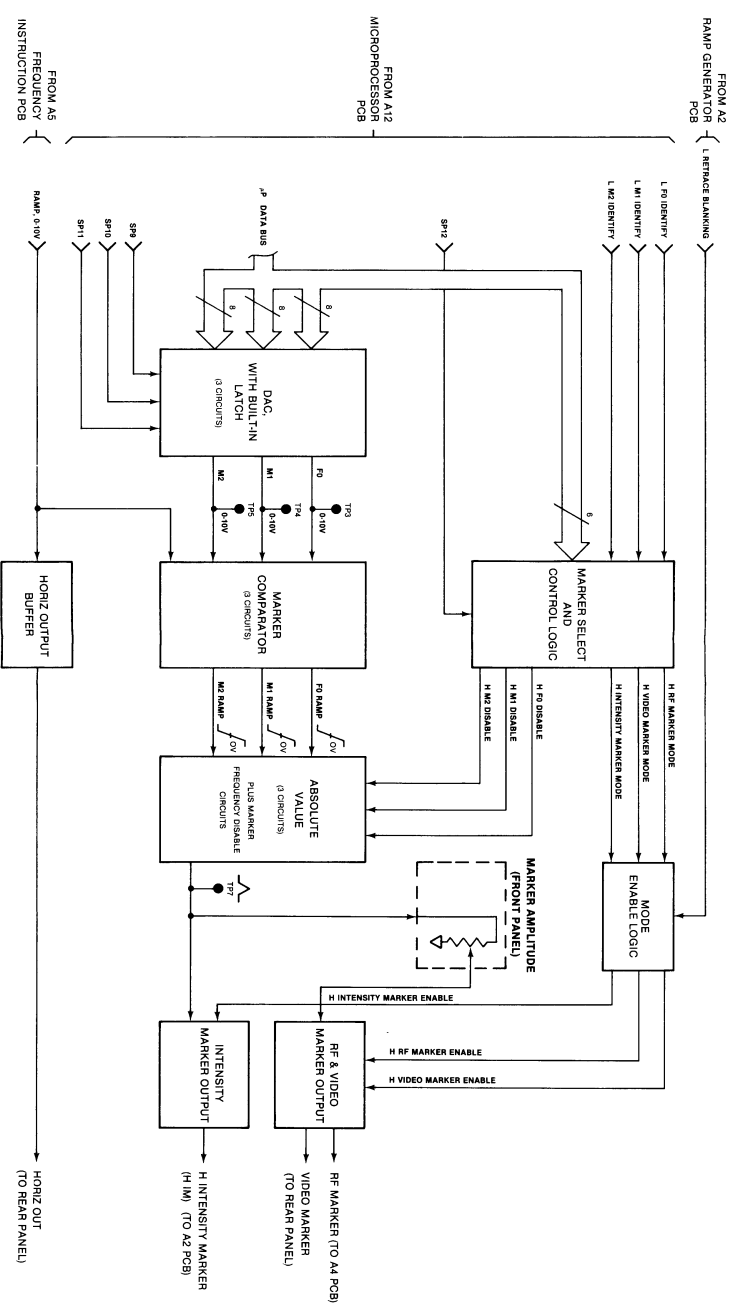
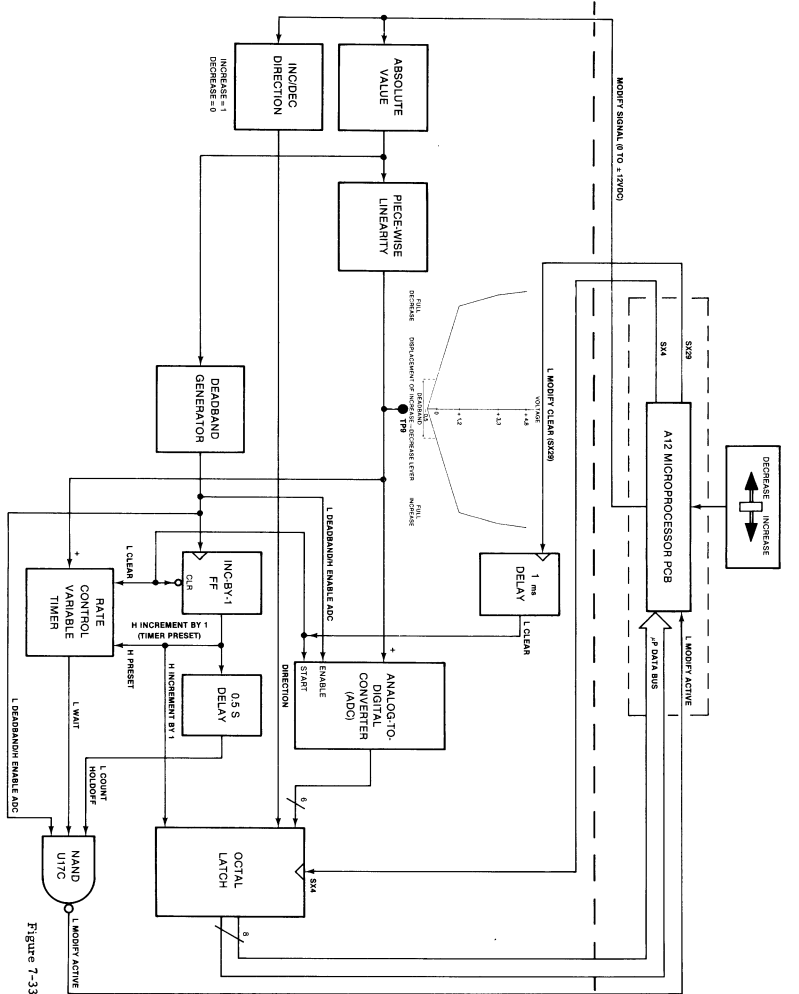

Figure 7-32. A3 PCB Marker Generator Functional Block Diagram
Figure 7-33. A3 PCB INCREASE-DECREASE Logic Circuit Functional Block Diagram
The A3 Marker Generator PCB generates the RF, Video, and Intensity markers. In addition, the PCB also contains the logic circuitry associated with the front panel INCREASE-DECREASE lever. A functional diagram of the marker generator circuitry is shown in Figure 7-32, and a similar diagram for the INCREASE-DECREASE lever logic circuitry is shown in Figure 7-33. The A3 PCB schematic diagram (4 sheets) is contained in Figure 7-34 and the circuits are described below.
a. Marker Generator Circuits. As shown in Figure 7-32, the inputs to the Marker Generator are a 0-10V sweep ramp from the A5 PCB and the retrace blanking control line from the A2 PCB, plus the data bus and several control lines from the A12 PCB. The 0-10V sweep ramp (**RAMP, 0-10V**) may be either the **RAMP OUT** signal from the A2 PCB, the **MAN SWEEP INPUT** from the front panel, or the Step Freq DAC signal (paragraph 3-7.2) from the A5 PCB. The inputs from the A12 PCB are as follows:
The first function the circuit performs is to increase or decrease the selected parameter's value in one increment steps. As shown in Figure 7-33, the input signal is processed in a control loop with the A12 Microprocessor PCB. The INCREASE-DECREASE lever itself is connected to the A12 PCB. This lever controls, via circuitry on the A12 PCB, the voltage level of the MODIFY SIGNAL input line to the A3 PCB. When the lever is moved from its center position, the MODIFY SIGNAL line's voltage value is between either 0 and -12 VDC or 0 and +12 VDC. The voltage's polarity and value depend on the direction and length of INCREASE-DECREASE lever displacement. The DECREASE direction yields a positive voltage, and displacement in the INCREASE direction yields a negative voltage. This 0 to ±12 VDC voltage goes to two places on the A3 PCB: the Absolute Value and the Inc/Dec Direction circuits.